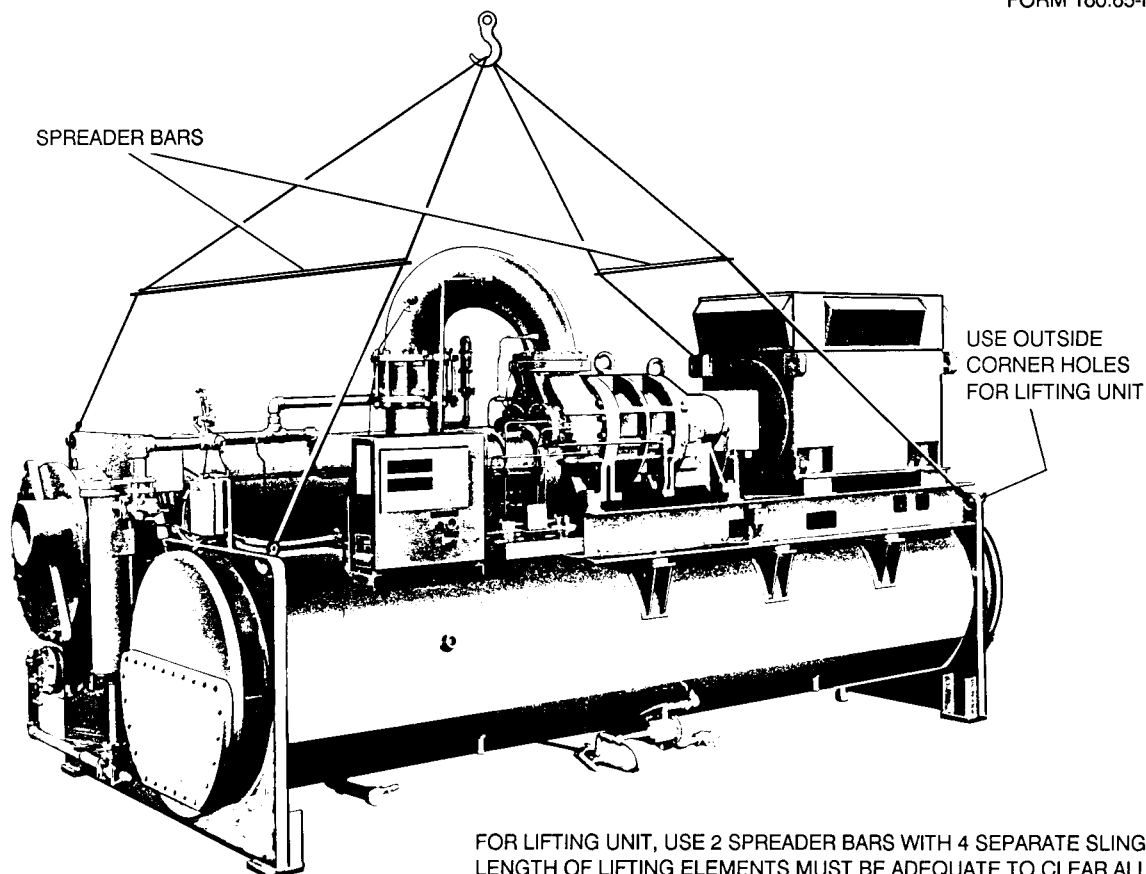

FIG. 1 — RIGGING THE UNIT
Each unit has eight (8) lifting holes, (4) four on each end, in the end sheets. The four (4) outside corner holes must be used for lifting the unit. (See Fig. 1.)
(See Fig. 1 for proper use of slings in rigging.)